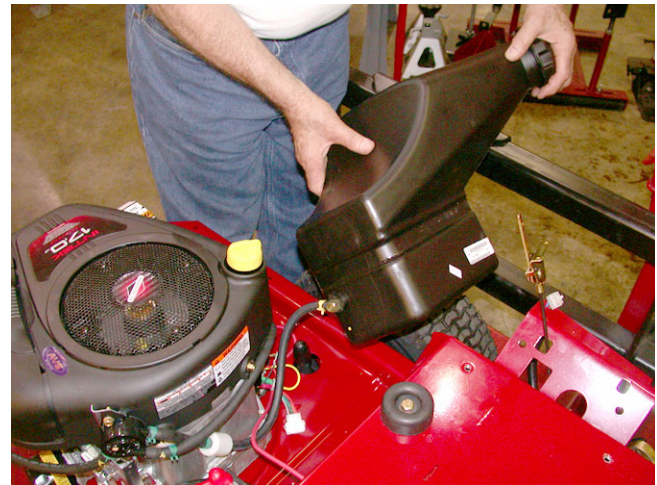

Figure 15.7
- 15.7. Rotate tank upward and slide out toward the side. See Figure 15.7.